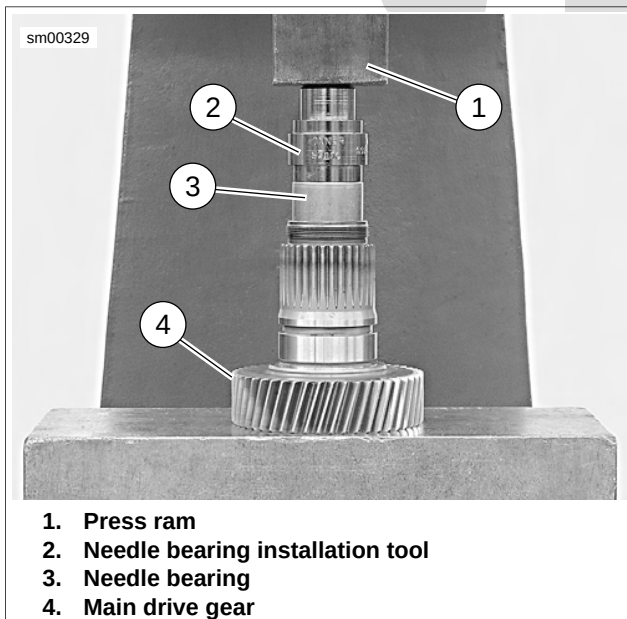

Figure 6-72. Pressing Outer Needle Bearing Assembly into Main Drive Gear
6. See Figure 6-72. Place main drive gear (4) on press bed with gear end facing down.
7. Place needle bearing (3) squarely into end of drive gear. Insert installation tool (2) with end stamped "OUTER" facing needle bearing.